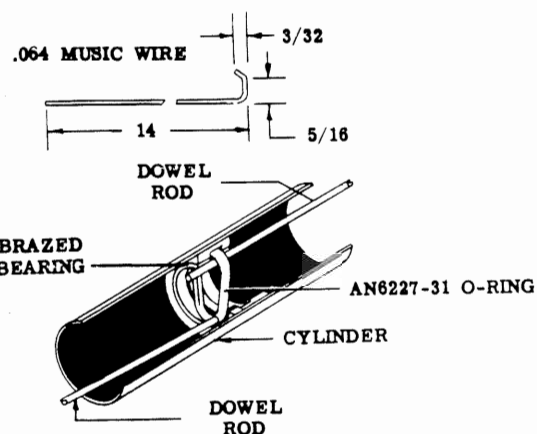

Figure 5-2. Shock Strut "O" Ring Installation
- m. Remove the "O" ring from the groove in the center brazed bearing of the barrel with a piece of wire bent as shown in Figure 5-2.
g. Install the "O" ring in the groove in the center brazed bearing inside the barrel assembly. Use two small dowel rods to work it into position. Hold the "O" ring with one rod while working it into the groove with the other. See Figure 5-2.
- a. Install the "O" ring in the center bearing as shown in Figure 5-2, using two dowel rods to work it into position. Soak the lubricating felt pad in oil (SAE No. 10) before installation.